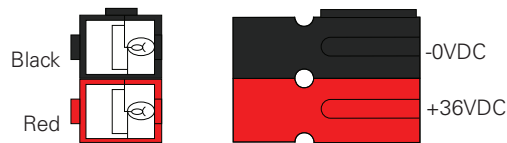

Fig. 4-12, Anderson™ PP75 Connector
7. Check contacts are seated correctly on 75A Anderson™ connector before use (note polarity and orientation, see **Fig. 4-12**). Connect to power supply.